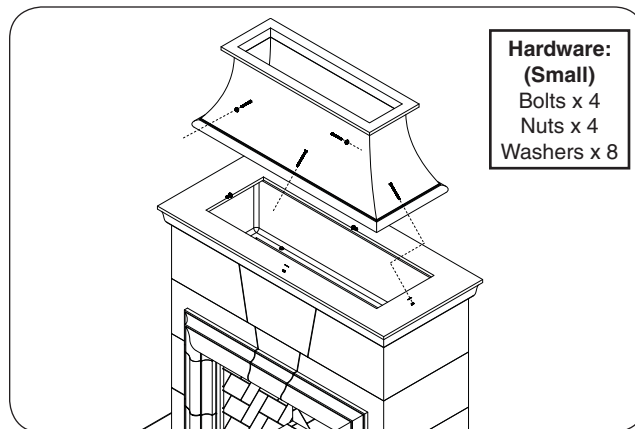

Fig. 19-3 Assemble chimney
2. Place the chimney piece on top of the top body piece. Carefully align the pilot holes, and repeat the hardware installation process (small hardware kits). See Fig. 19-3.